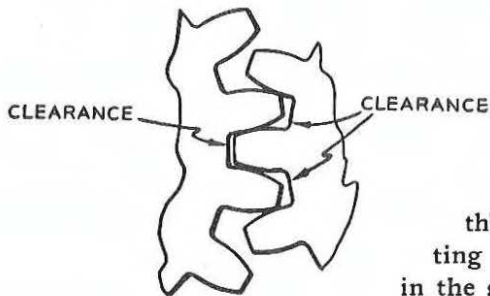

FIG. 172
When setting up the gear train, be sure to allow sufficient clearance between two meshing gears (Fig. 172). Gear clearance does not reduce the accuracy of a thread cutting operation, because all play in the gears is taken up in one direction. A method often used to obtain proper gear clearance is: (1) Place a sheet of thick writing paper between the teeth of the two meshing gears, (2) tighten gears in position, and (3) remove paper. A small amount of grease, preferably graphite grease, applied to gear teeth will often aid in obtaining smoother, more quiet operation.